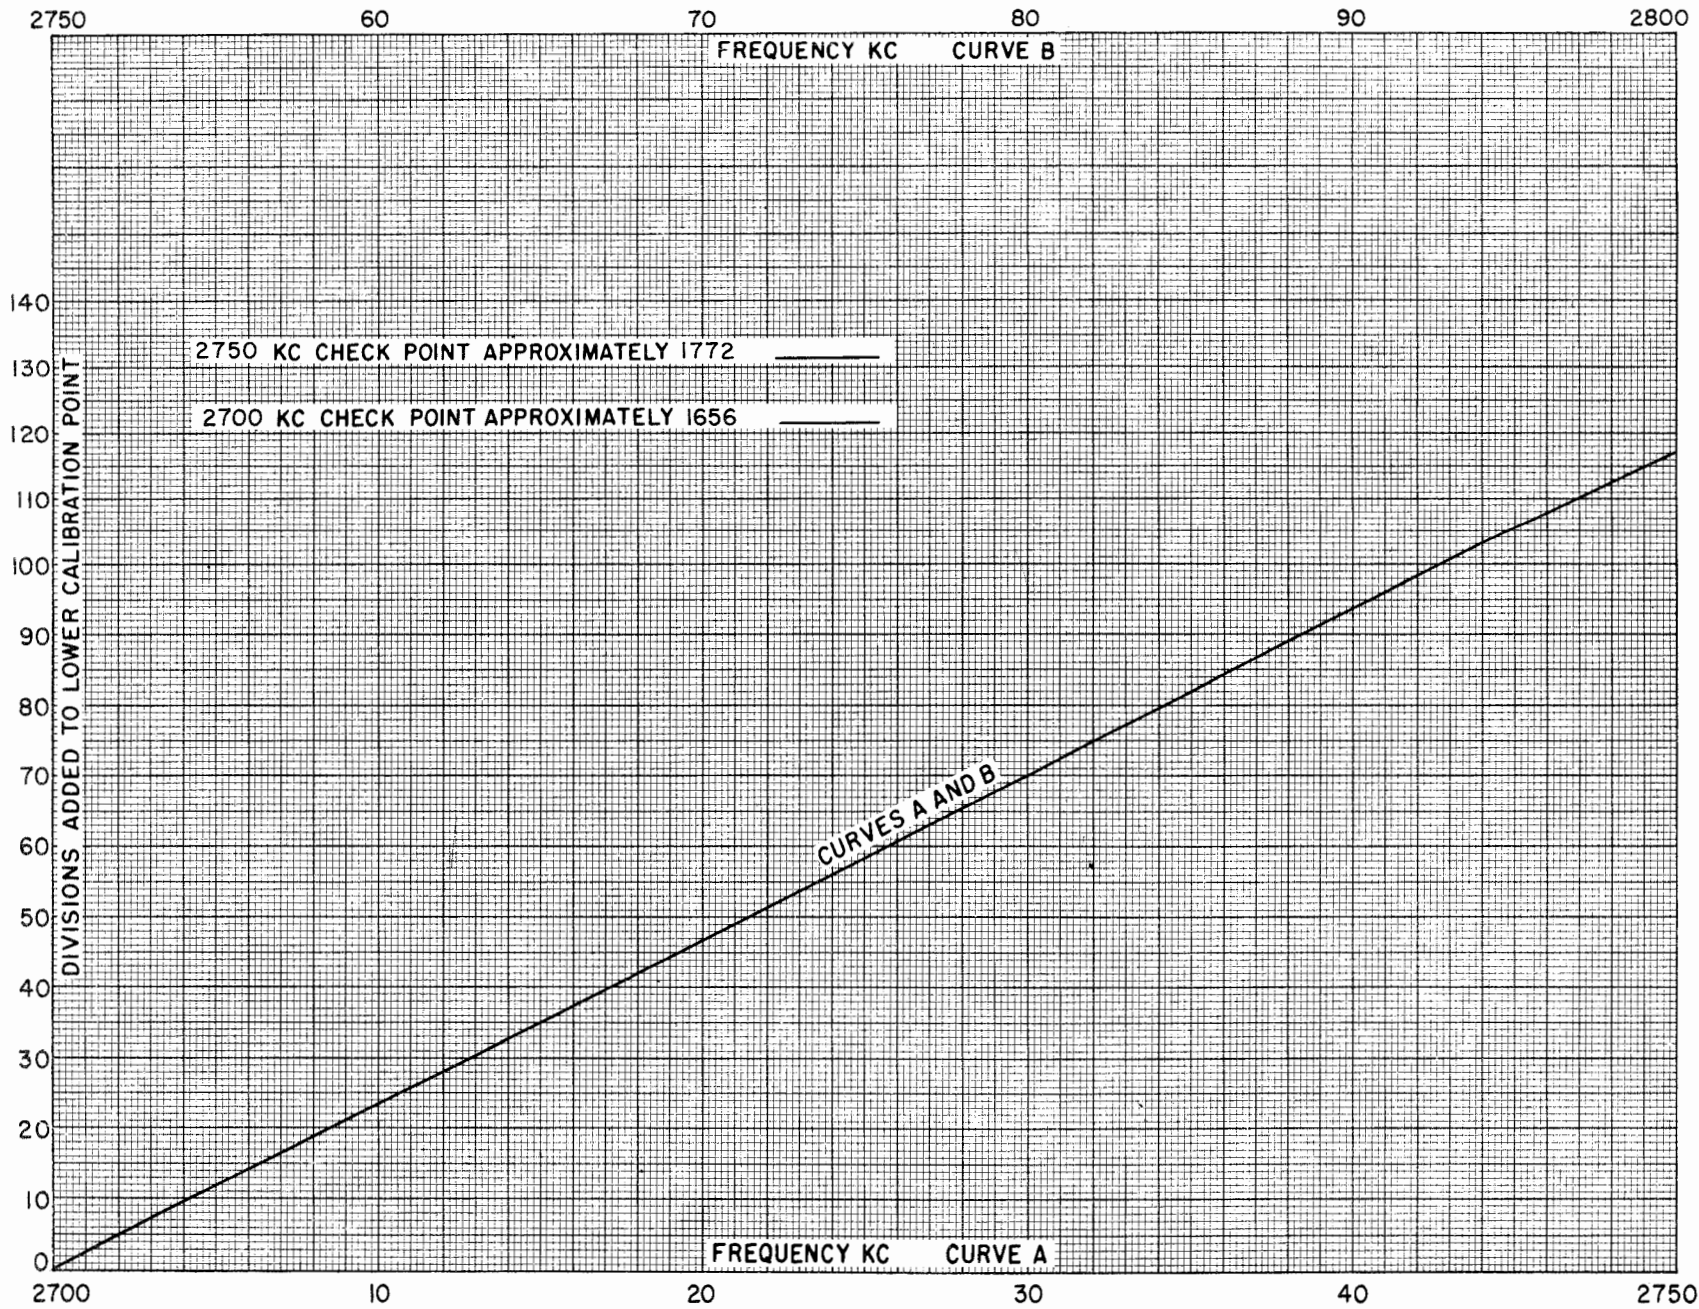

Figure 4-11. Calibration Curve, 2700-2800 kc
(8) Turn to Calibration Curve, figure 4-11, and find 2762.5 kc on scale at top of page.
(9) Read "Divisions Added to Lower Calibration Point" on scale at left side of page. (Curve B) = 29.4.
(10) 2750 kc check point approximately 1772 divisions.
(11) Set dial for: "dial hundreds" = 17